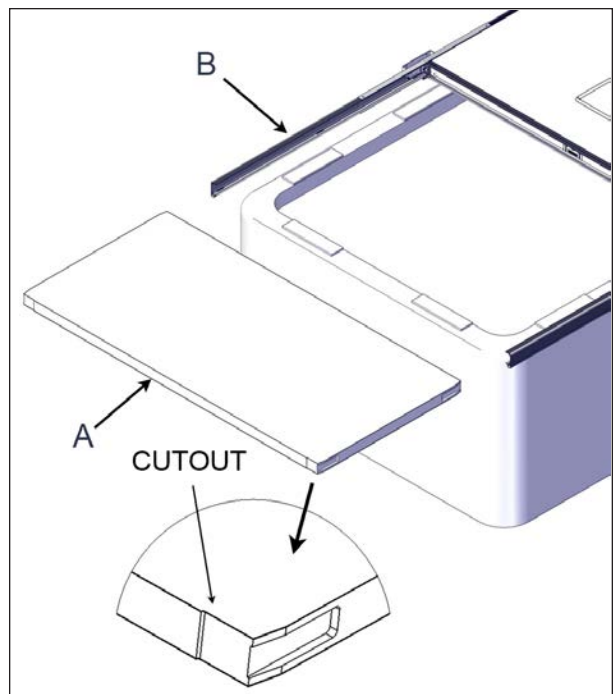

FIGURE 50: EXTRA PANEL INSTALLATION FOR 16' TO 20' LONG SPA MODELS
- Slide in one of the remaining extra panels into the C-channels see Figure 50.
Make sure the panel side with the cut out shown in Figure 50 is pointing outward.